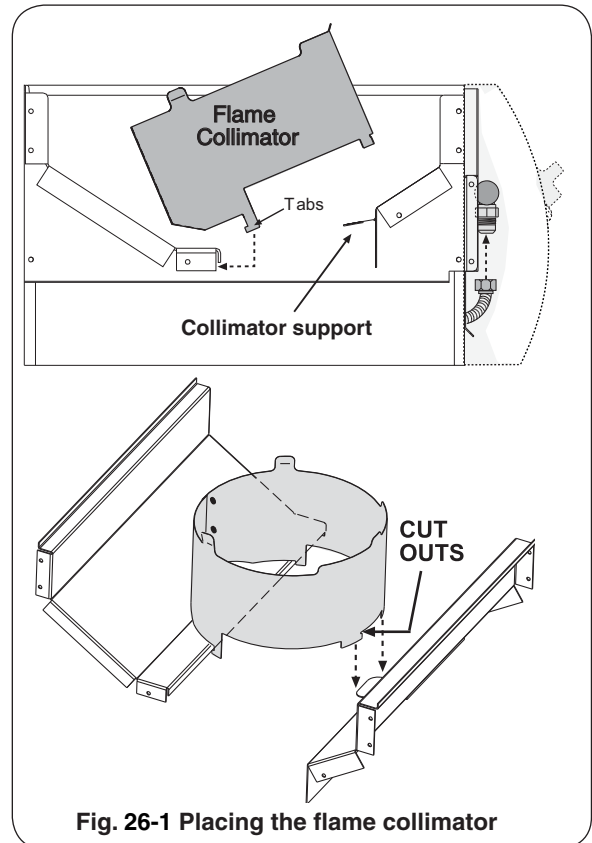

Fig. 26-1 Placing the flame collimator
1. Place the flame collimator over the burner with the tabs and cutouts resting on the inner shell, as shown in Fig. 26-1. Flex the front of the collimator towards the burner until the cutouts fit down around the collimator support. This will lock your collimator into place. The flame collimator acts as a barrier for windy conditions and creates higher BTU concentration to the support grid.
1. Remove the cover, cooking grid, and flame collimator. Compress the collimator front to back to release the front lock then rotate up as shown in Fig. 26-1.